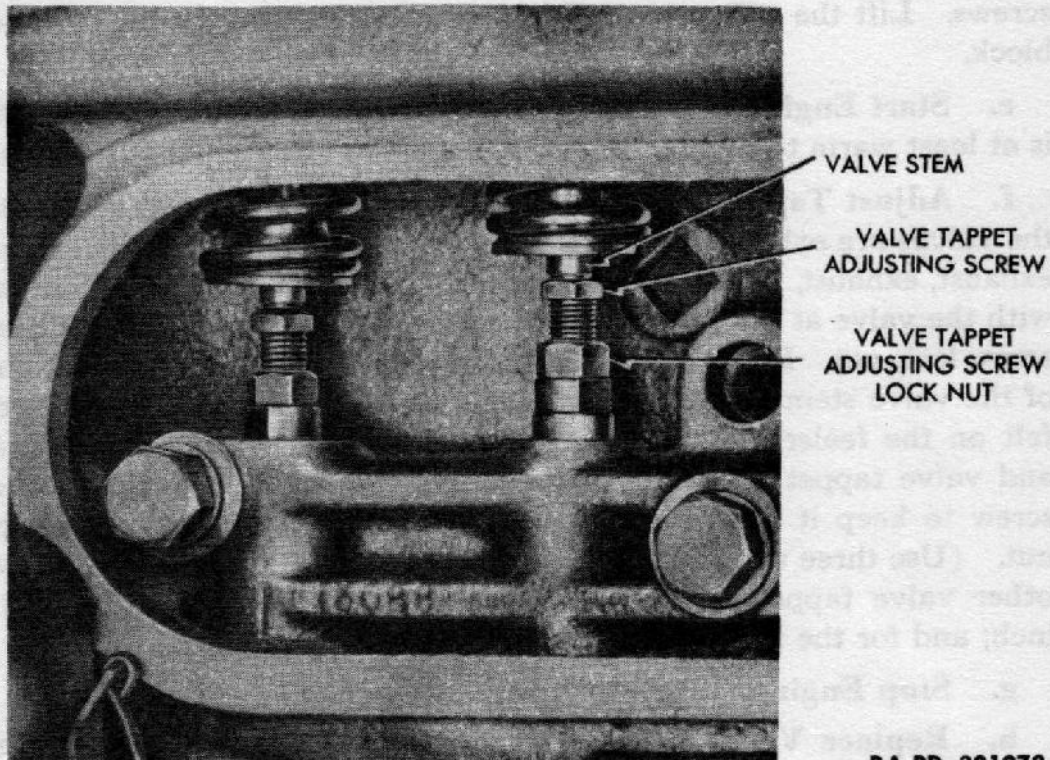

Figure 24 — Valve Tappet Adjustment Provisions
f. **Adjust Tappets** (fig. 24). Beginning at either end of engine, the valves are exhaust, intake, intake, exhaust, exhaust, intake, intake, exhaust, exhaust, intake, intake, and exhaust, respectively. Beginning with the valve at the extreme front of the engine, loosen the adjusting screw lock nut. Insert a 0.010-inch feeler gage between the lower end of the valve stem and the valve tappet until just a slight drag can be felt on the feeler gage as it is pulled from between the valve stem and valve tappet adjusting screw. Hold the valve tappet adjusting screw to keep it from turning, and tighten the adjusting screw lock nut. (Use three wrenches.) Repeat the process to adjust each of the other valve tappets. Proper clearance for exhaust valves is 0.010 inch; and for the intake valves, 0.006 inch.